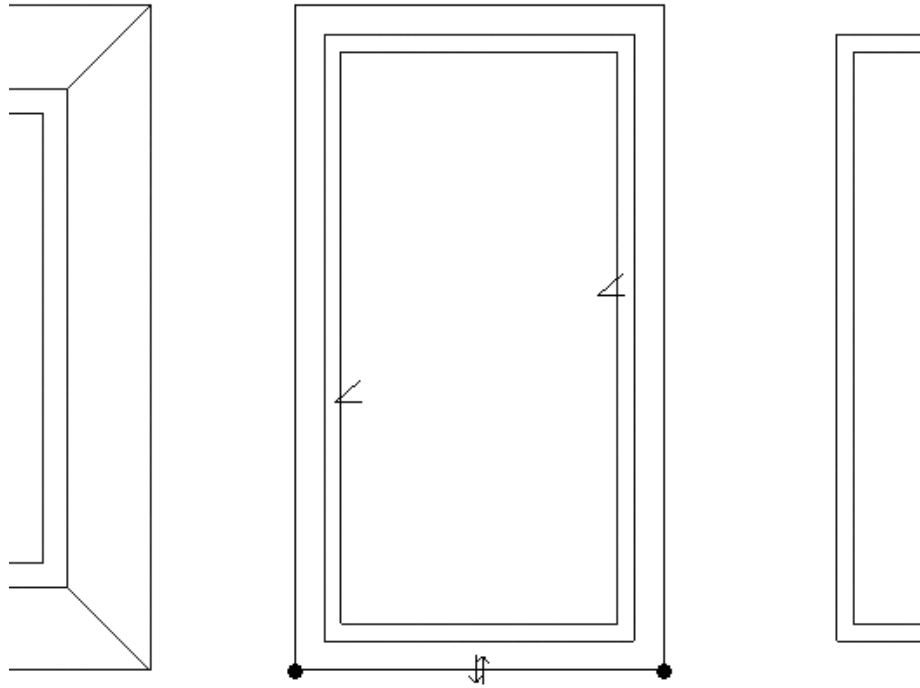

Figure 7-1.5 Gable - plan view
- Select the remaining two walls (Figure 7-1.5).